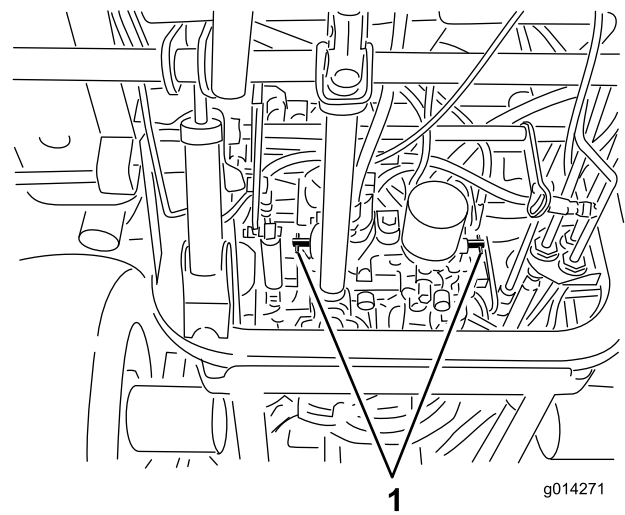

Figure 19
4. Rotate each by-pass valve counterclockwise 1 turn (Figure 19).
Rotate each by-pass valve clockwise 1 turn and hand tighten them (torque of approximately 71 in-lb (8 N-m)) (Figure 19).